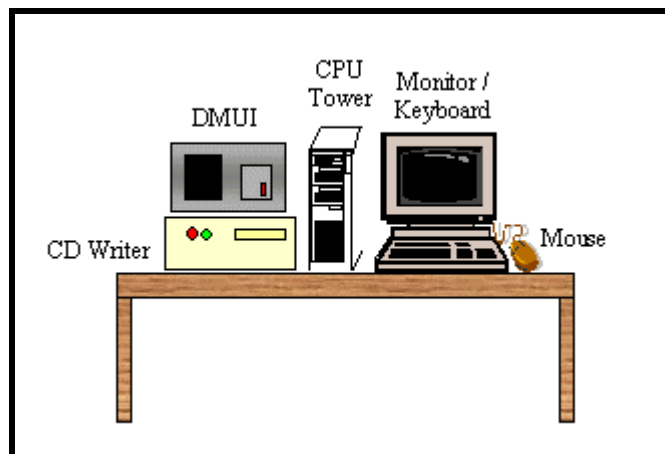

Fig. 3 – MMC system equipment
2. **Parts List:** (1) DEC Alpha CPU, (1) monitor, (1) DMUI, (1) DMU, (1) CD writer, (1) keyboard, (1) mouse, (1) Centronix to High-Density SCSI cable, (1) Centronix to Centronix SCSI cable, (1) SCSI terminator, (4) power cords, (1) box of CD-Rs.
3. **Arrange equipment in workspace (Fig. 3):**